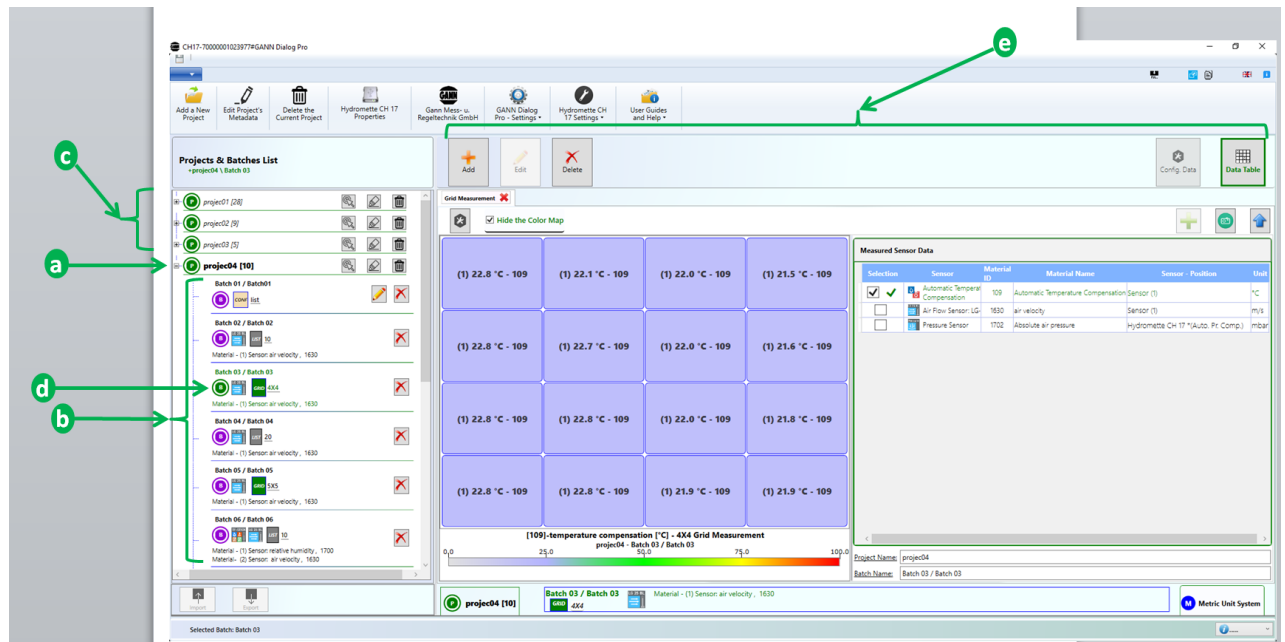

Figure 2-2: projects and batches
A standard **project folder** as shown in Figure 2-2 is structured as follows:
**To navigate through different projects** (see items in Figure 2-2 shown by the menu **c**), just click on one project in the list. The arrow **a** in Figure 2-2 shows the currently selected working project in the project folder. A **selected project** is always marked in **bold**.
**To navigate through different batches** in the current project, click on the respective icon. The arrow **b** in Figure 2-2 shows the list of batches from the selected project on **a**. The currently **selected batch** **d** is always displayed in **bold and green**. The details of each
selected batch are displayed on the right panel of the main application user interface ( [e] in Figure 2-2). More information can be found in chapter 9.5.
**Then click on the button “Import”** to transfer the data to your PC software. The project folder panel will be approximately the same as shown in Figure 2-2.